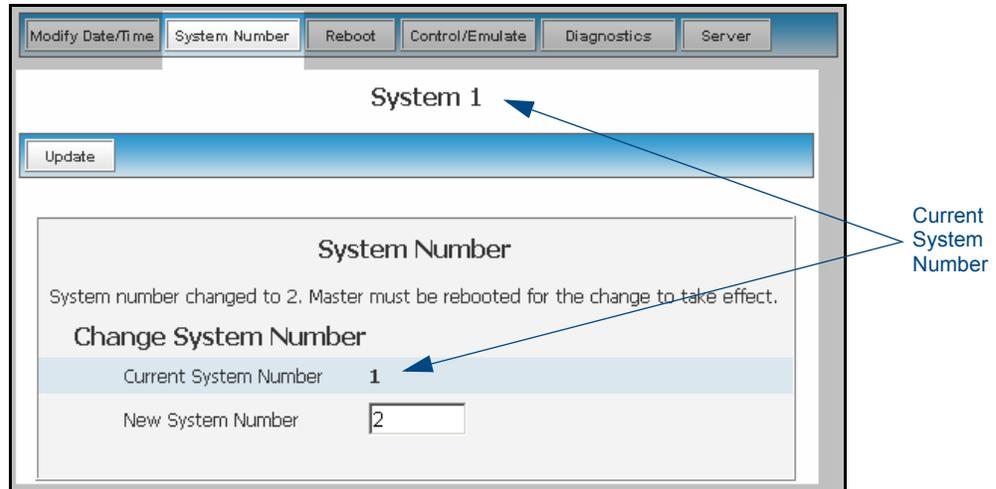

FIG. 46 Change System Number dialog
3. Click the **System Number** button to open the Change System Number dialog (FIG. 46). This dialog shows the current system number (read-only) on the target Master.